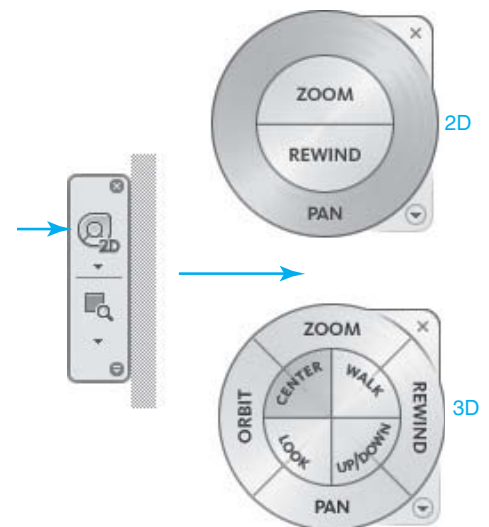

Figure 2-27
2. When in a **2D** view, click on the **Magnifier** icon in the **Navigation Bar** to bring up the **2D Wheel**. When in a **3D** view, click on the **Magnifier** icon in the **Navigation Bar** to bring up the **Full Navigation Wheel** (see Figure 2-27).